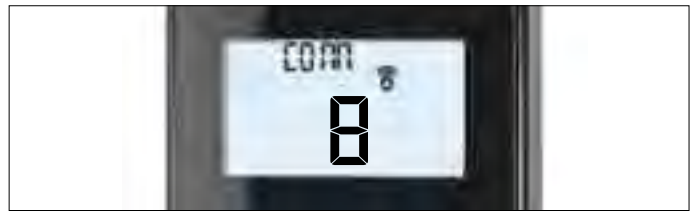

Figure 13: Synchronization of Symax handset in process
the synchronization and data exchange is in process (see figure 13, page 7). **Two (2) short beeps confirm the code is set.** After successful synchronization the current state of the gas fire is displayed on the handset.